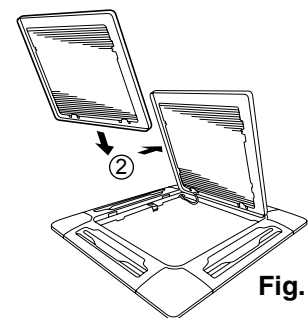
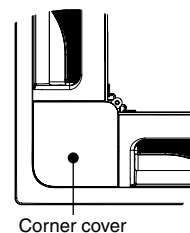
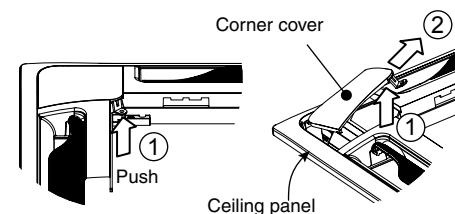

Fig. 3-41
Fig. 3-42
Fig. 3-43
- b) With the air-intake grille opened, remove the grille hinge from the ceiling panel by sliding it in the direction shown by the arrow ②. (Fig. 3-41)
- (2) Removing the corner cover
- a) Remove the screws on the corner and slide the latches in the direction of the arrow ① to disconnect the hinges (3 locations). (Fig. 3-42) Then, remove the air-intake grille in the direction of the arrow ②. (Fig. 3-43)